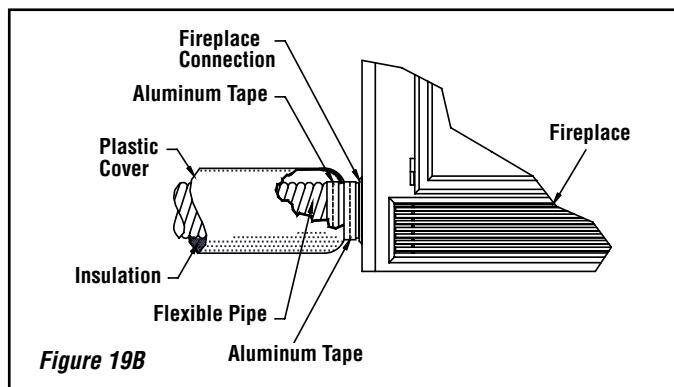

**Figure 18 - Junction Box Wiring, 120 VAC, 60 Hz, 1 Phase**
If you wish to adjust the blower speed, the variable speed control (VRUW) provided must be installed in line with the wiring (**Figure 18**). Again, use a qualified electrician for installation.
4. Connect the black power supply wire to the power outlet black lead wire together. Connect the white power supply wire and the power outlet white lead wire together (**Figure 18**).
5. Connect the ground supply wire to the green lead wire attached to the outlet's green ground screw (**Figure 18**). Restrain the inlet power lead per NEC or local codes.